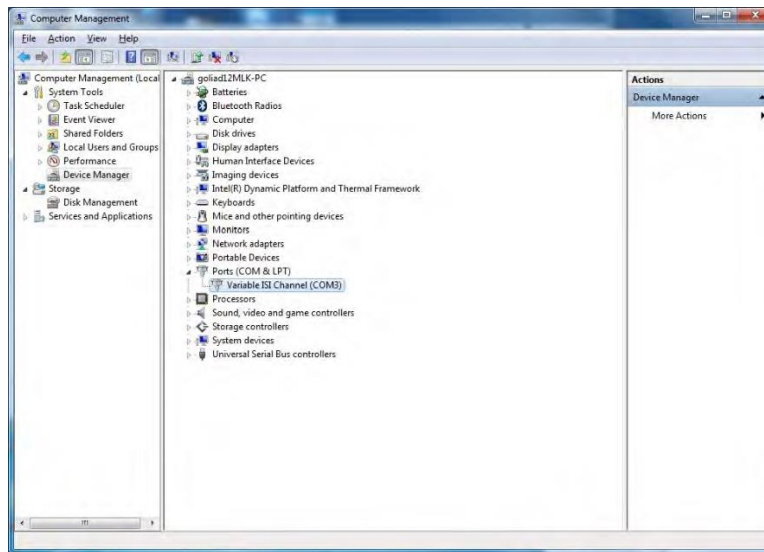

FIGURE 71. DEVICE MANAGER WINDOW AFTER INSTALLATION
7. Once installation has completed, the CLE1000 should appear in Device Manager as shown in Figure 71.